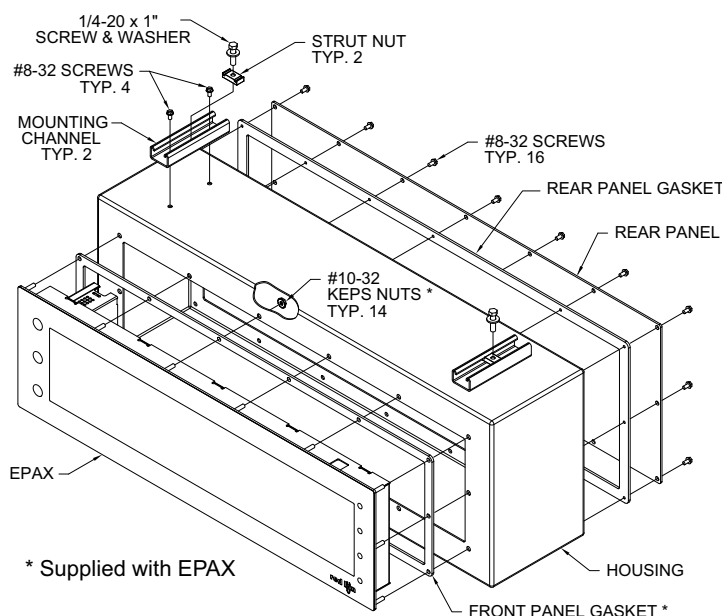

Figure 4
5. Mount the housing, using the strut nuts and steel 1/4-20 UNC bolts and washers, as shown in figure 4. Connect the wires to the Display per the instructions included with the personality board.